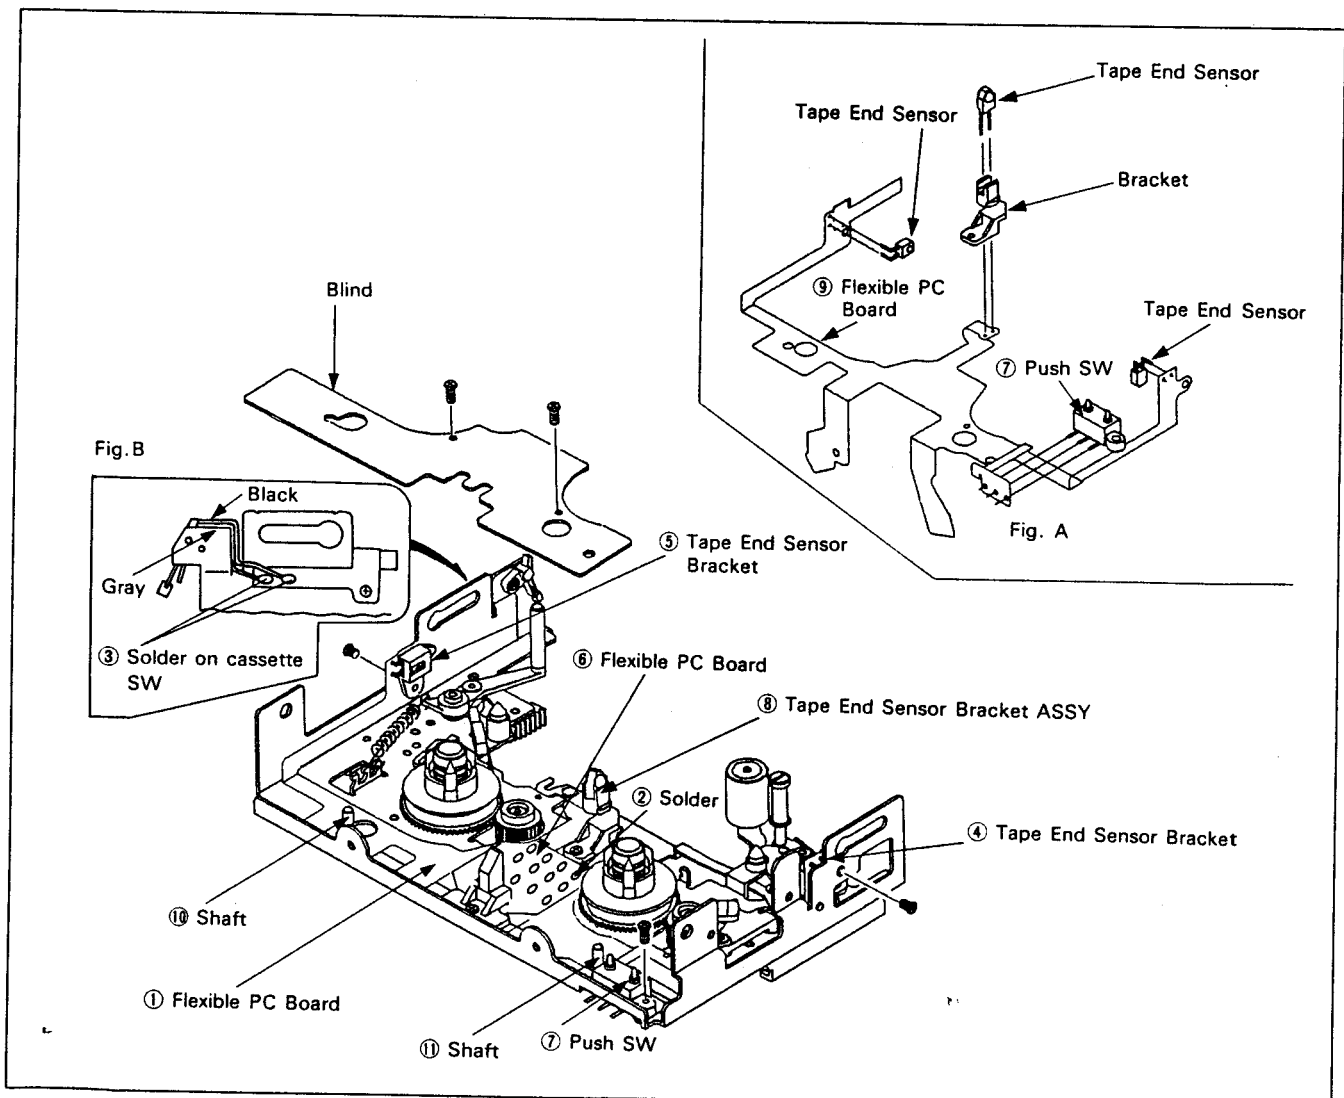

Fig. 2-20.
(See Fig. 2-20)
- 5) Attach flexible PC board ① to the reel chassis as shown in Fig. 2-20. (See para 2-6-11.)